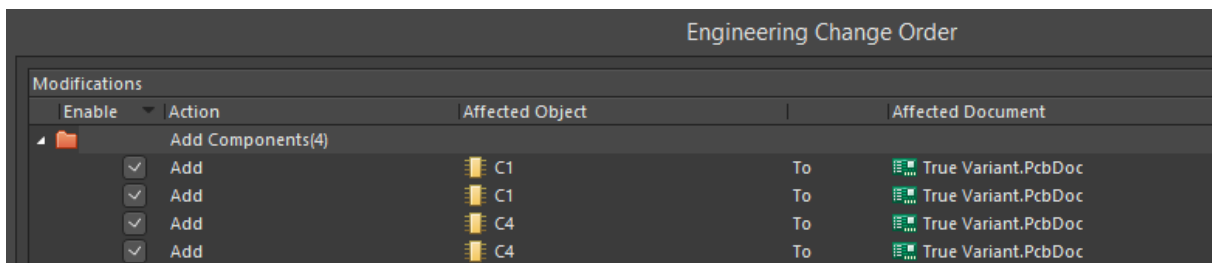

Figure 15. Both the base part and alternate parts will be imported into the PCB
45. From the **Design** menu, select **Import Changes from Using Design Variants.PRJPCB**. This will import the alternate components into the PCB. In the *ECO* dialog, you will see the original component and the alternate part both added to the PCB as shown in Figure 15. This can be confusing at first, but this is the intended function.